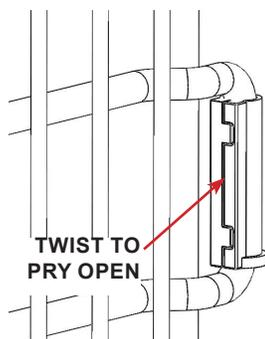

FIGURE 3.11 - Remove Hinge Bushing
STEP 9: Use a flathead screwdriver to pry, separate the two hinge bushing halves. See FIGURE 3.11 & 3.12